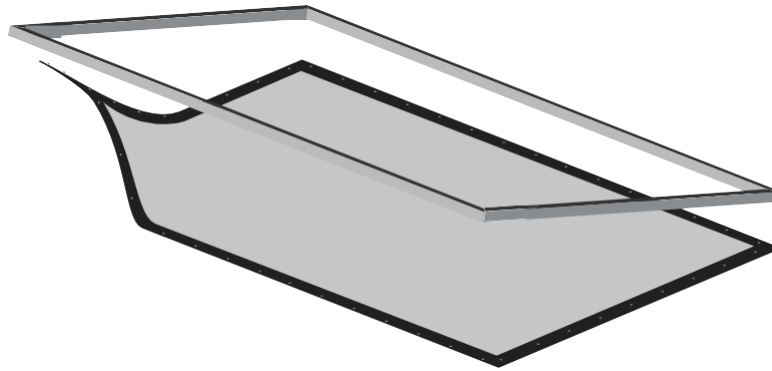

Figure 14: Attaching Top Corner Snaps
4. Place the frame over the screen, snap side down (see Figure 14).
5. Starting with the snaps on the top corners and then horizontally along the top while lifting the frame with one hand, snap the screen into the frame. Gently allow the screen to stretch onto the snaps. Do not jerk, wrinkle, or crease the screen material, as it can be damaged (see Figure 14).